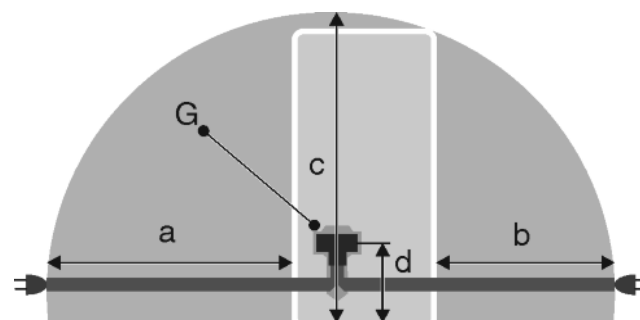

Fig. 31
- The socket is outside the back of the appliance area in the specified area *Fig. 31 (a, b, c)*.
- ▶ Insert the appliance plug *Fig. 31 (G)* into the back of the appliance. Ensure that it clicks into place.